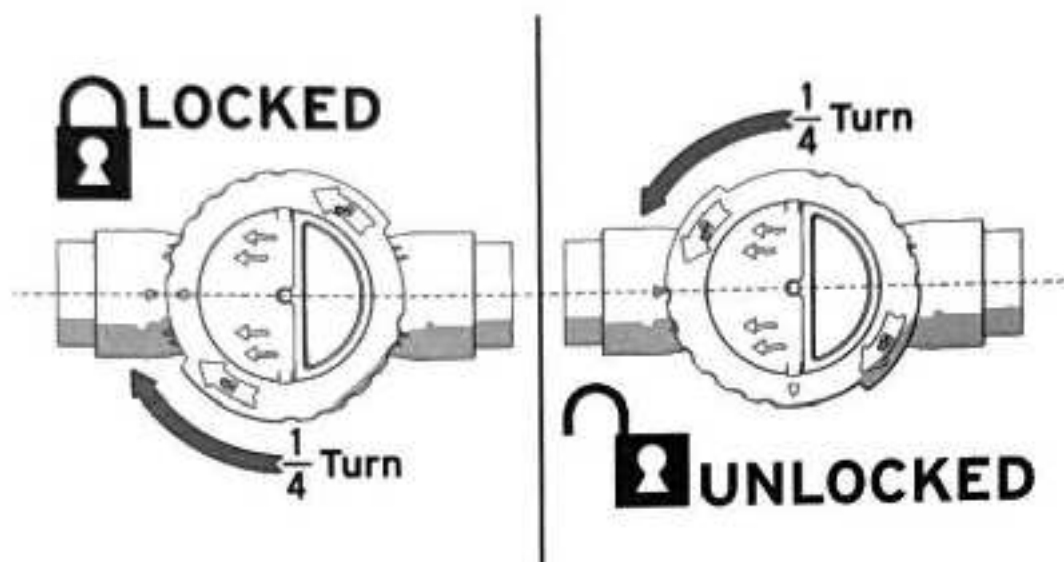

Figure 1. Operation of TruClear™ Lock Ring
3. Turn the lock ring 1/4 turn counter clockwise. See Figure 1.
2. Turn the lock ring 1/4 turn clockwise to engage lock. See Figure 1.